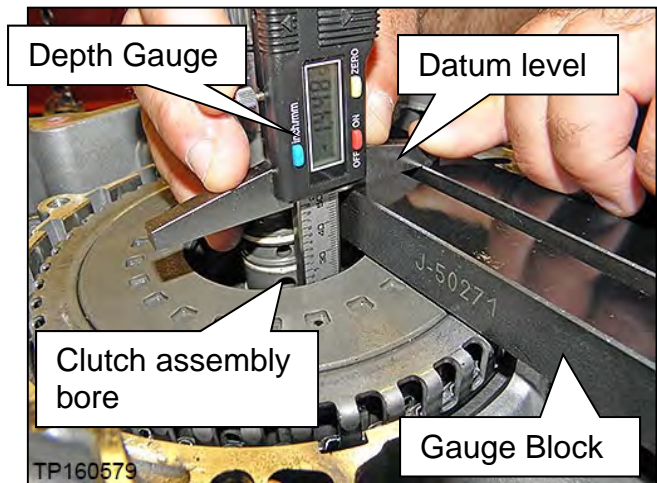

Figure 135
- c. Position the Depth Gauge on the Gauge Block (Figure 135).